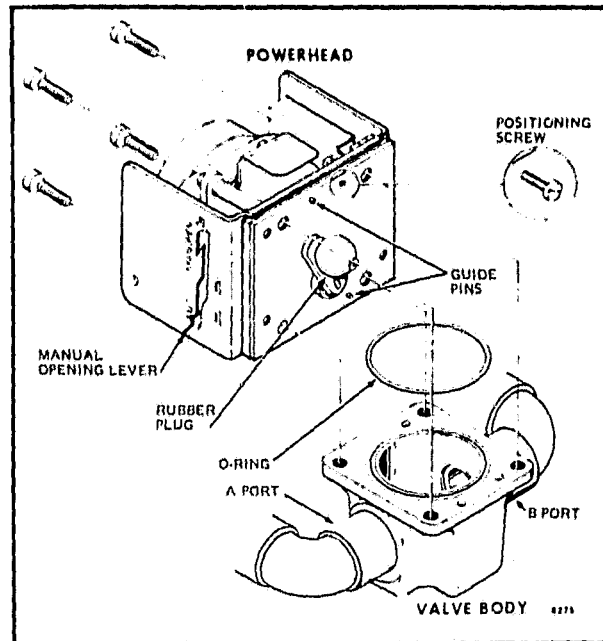

FIG. 3—POWERHEAD MUST BE ALIGNED SO THAT THE GUIDE PINS AND THE POSITIONING PIN IN THE POWERHEAD FIT THE HOLES IN THE VALVE BODY.
Each powerhead controls each valve body separately. To assemble a powerhead to a valve body, place an O-ring in the circular slot on the top of the valve body (Fig. 3). Assemble the powerhead to the valve body by placing the manual opening lever on the powerhead in the MAN. OPEN position.
--Align the powerhead by fitting the hex head screw on bottom of powerhead into the hole on top of valve body (see Fig. 3).